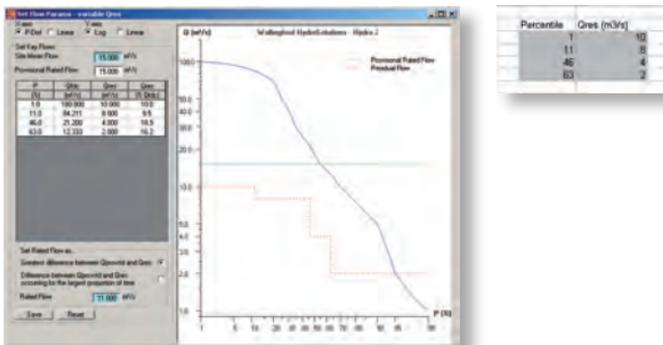
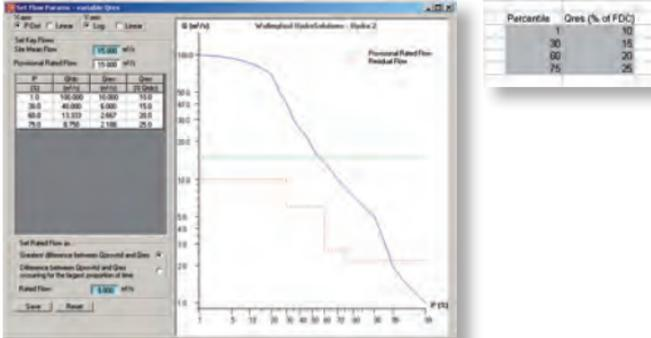

Figure 6.3 Qres defined as absolute flows ( $\text{m}^3/\text{s}$ )
Figure 6.4 Qres defined as percentage of the FDC flows (%)
- The second column can define the Qres values in one of two ways. Firstly, as flow values in absolute flow units ( $\text{m}^3/\text{s}$ ), see Figure 6.3 for an example. Secondly as percentages of the flow in the river (ie. the FDC) in %, see Figure 6.4 for an example.